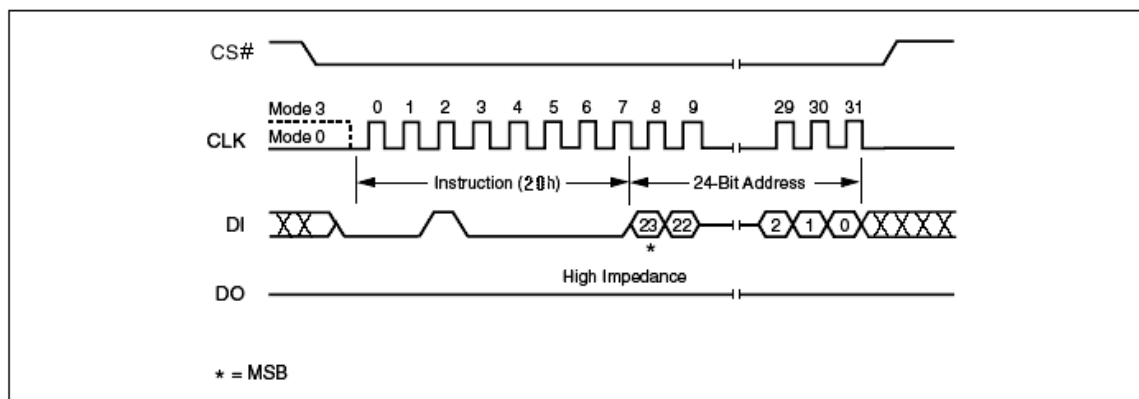

Figure 28. Sector Erase Instruction Sequence Diagram
The instruction sequence is shown in Figure 28. Chip Select (CS#) must be driven High after the eighth bit of the last address byte has been latched in, otherwise the Sector Erase (SE) instruction is not executed. As soon as Chip Select (CS#) is driven High, the self-timed Sector Erase cycle (whose duration is t_{SE}) is initiated. While the Sector Erase cycle is in progress, the Status Register may be read to check the value of the Write In Progress (WIP) bit. The Write In Progress (WIP) bit is 1 during the self-timed Sector Erase cycle, and is 0 when it is completed. At some unspecified time before the cycle is completed, the Write Enable Latch (WEL) bit is reset.